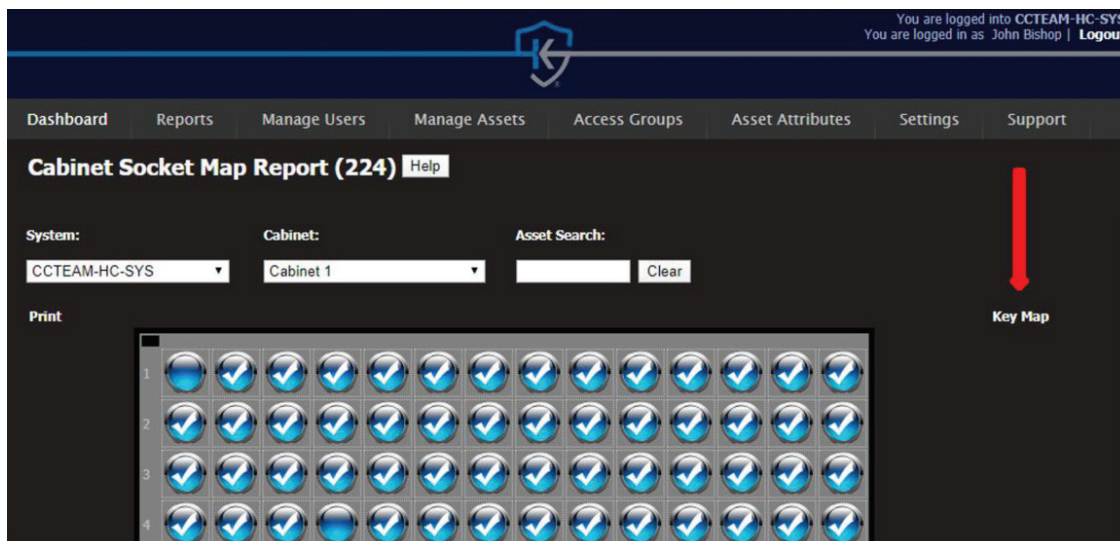

Figure 52: Cabinet Socket Map Report
- Access your cloud map by clicking the Key Map button on the right hand side (figure 52).